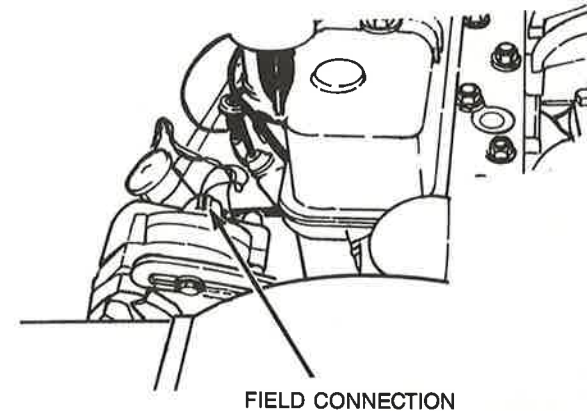

Figure 8. Field Connection on Alternator
4. Disconnect the FIELD connection from the alternator. See Figure 8.